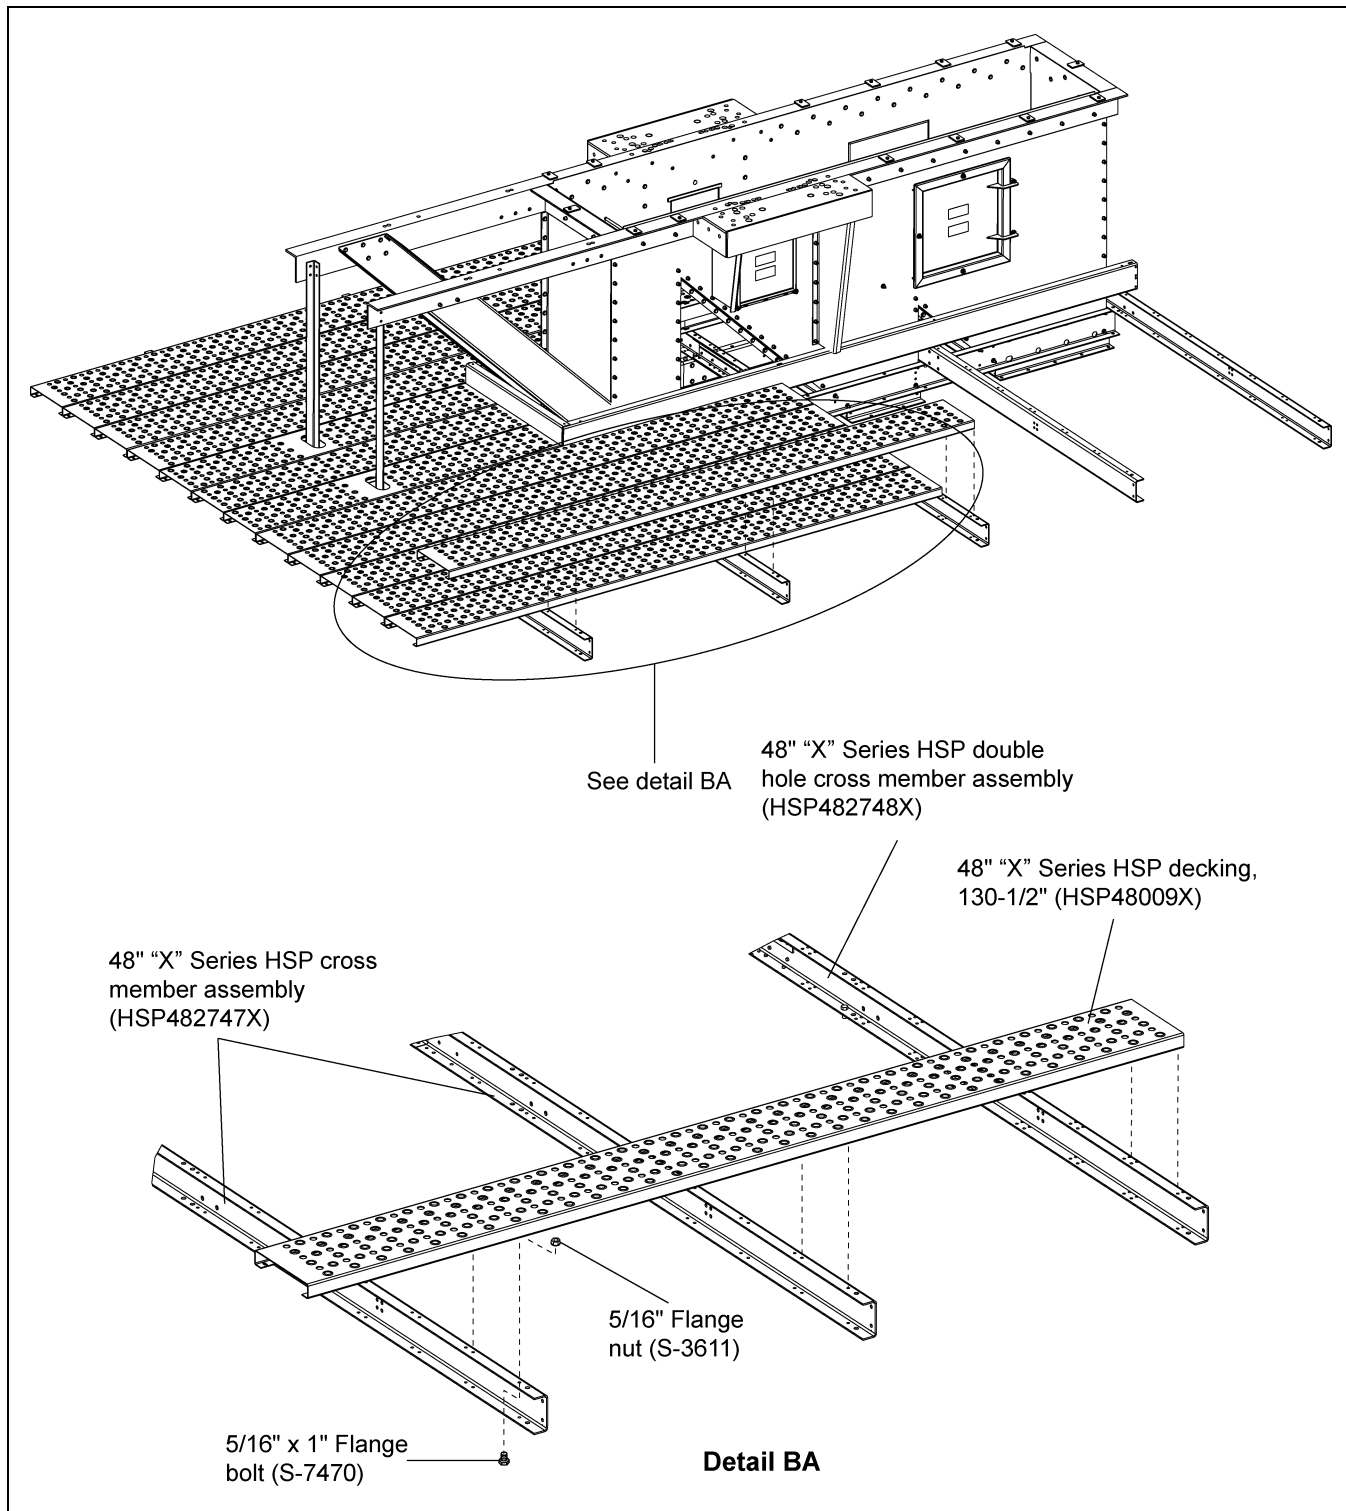

Figure 9L
1. Install six (6) planks of decking (HSP48009X) on the drive side at the up-leg end. **NOTE:** Be sure to install this section of decking by starting at the inside next to the toe board and working outward.
2. Fasten the decking to the three (3) cross channels using 5/16" x 1" flange bolts (S-7470) and 5/16" flange nuts (S-3611). (See Figure 9L.)